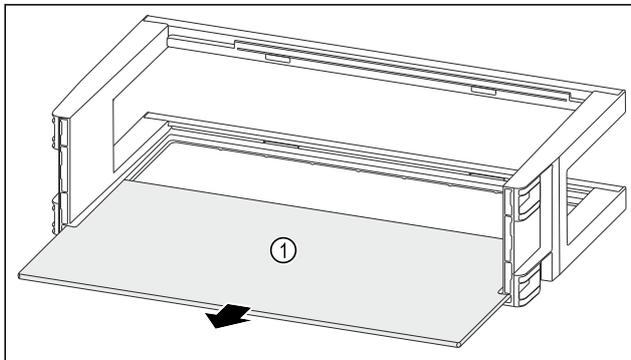

Fig. 112
- ▶ Remove the shelf Fig. 112 (1).